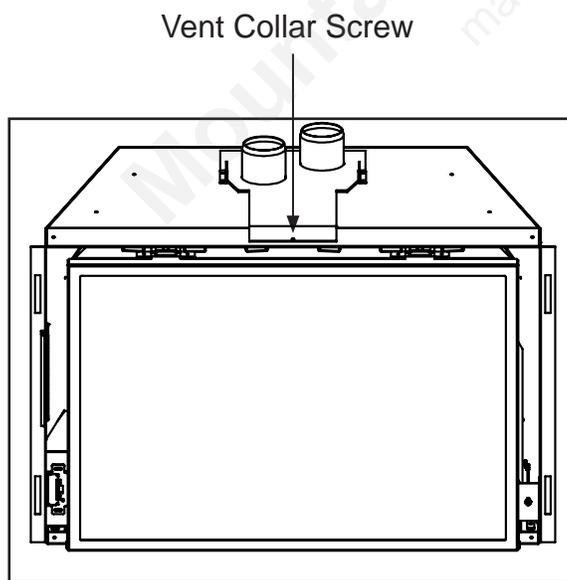

Figure 30: Vent Collar Plate Screw Location.
5. If the fireplace opening is lower than 25" (635 mm), remove the vent collar plate from the top of the insert by unscrewing the single T-20 Torx screw located on the center top of the stove above the door opening (see Figure 30). Slide the collar plate backwards. Properly secure the vent collar plate to the flexible vent pipe liner(s) previously installed in the chimney. Be careful not to over-stretch the liner(s).